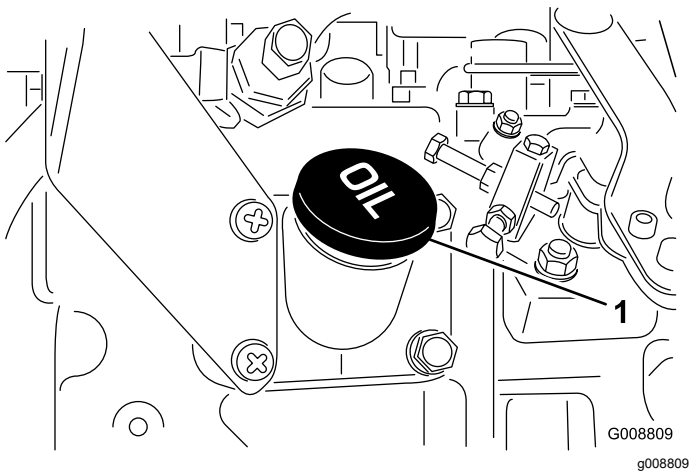

Figure 36
- If the oil is below the safe range, remove the fill cap (Figure 36) and add oil until the level reaches the Full mark.